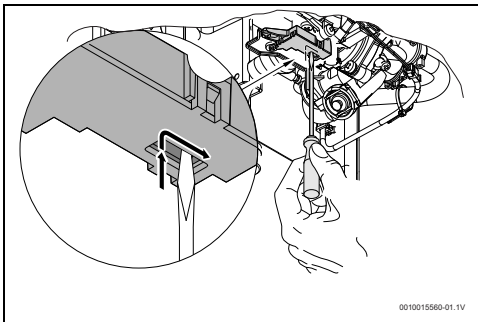

Fig. 29 Rearme do micro-interruptor
- ▶ Posicionar o micro-interruptor conforme Fig 29.